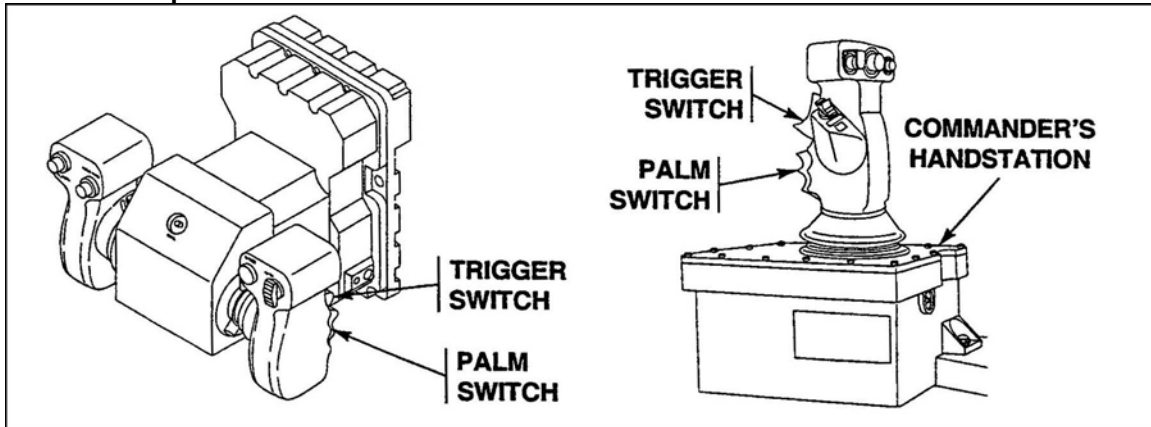

Figure 5. Commander's and gunner's hand station.
- (10) Squeeze the palm switch and trigger on the gunner's hand station (GHS) or the commander's hand station (CHS) to fire the weapon (Figure 5). If the gun fires, continue with the mission. If the gun fails to charge or fire, perform remedial action (Step b).